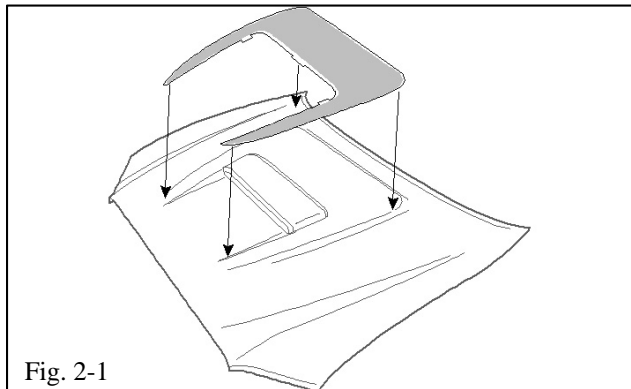
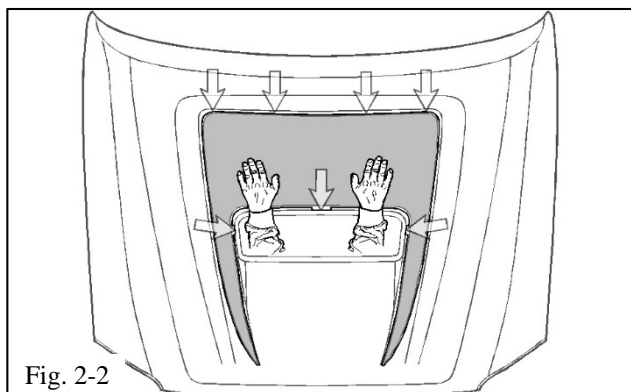

Fig. 2-1
Fig. 2-2
- (b) Carefully align the Hood Graphic in the proper position by lining up the pre-mask with the top and side edges of the hood scoop (Fig. 2-1 and Fig. 2-2).